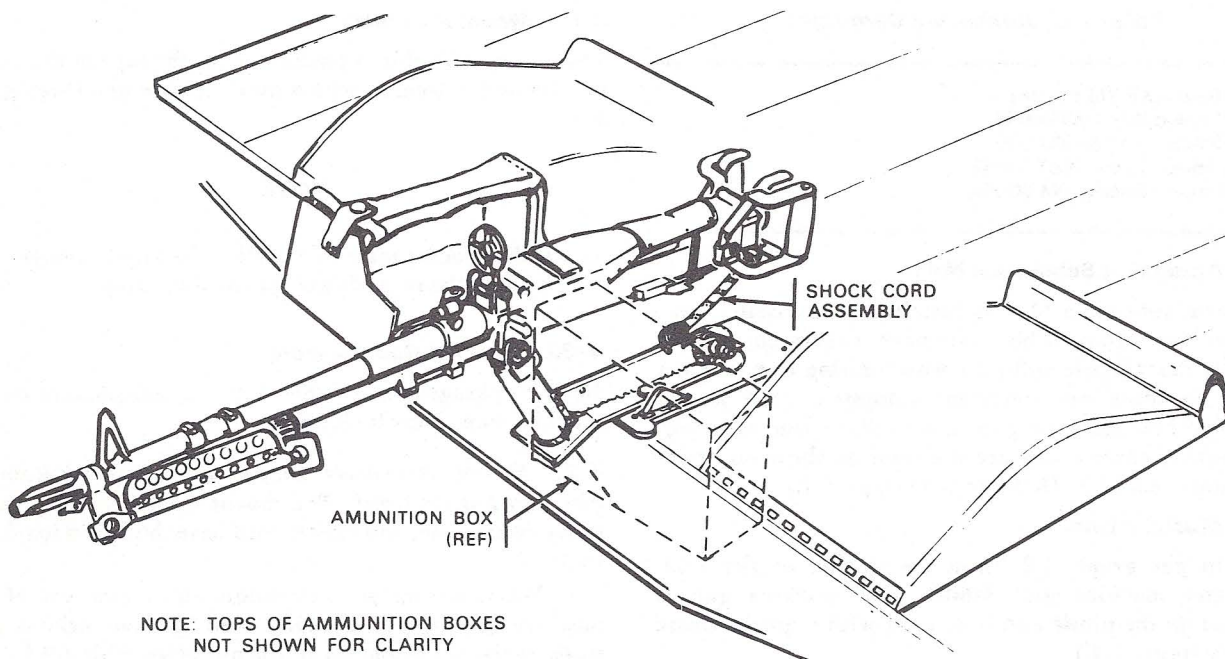

Figure 4-12. Machine Gun in Stowed Position—Right Rear View
c. The elastic cord assembly is fastened to the mount assembly and the machine gun when holding it in a stowed position. (See figure 4-12.)